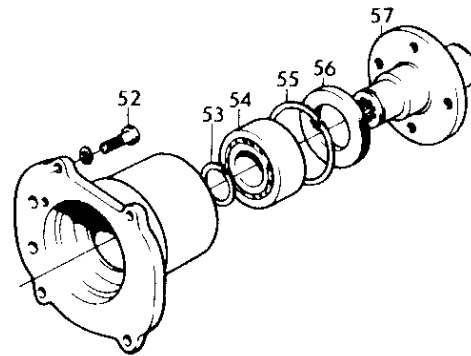

Fig. 6
1. Clean the rear housing thoroughly. Inspect the bearing (54, see Fig. 6) and the sealing ring (56). If any of them has to be replaced, carry out work operations 2–5 below.
2. Remove the circlip (53).
3. Press the flange (57) out of the rear housing with the help of sleeve 884152.
4. Remove the sealing ring (56).
5. Remove the circlip (55) and press out the bearing with the help of drift 884263.